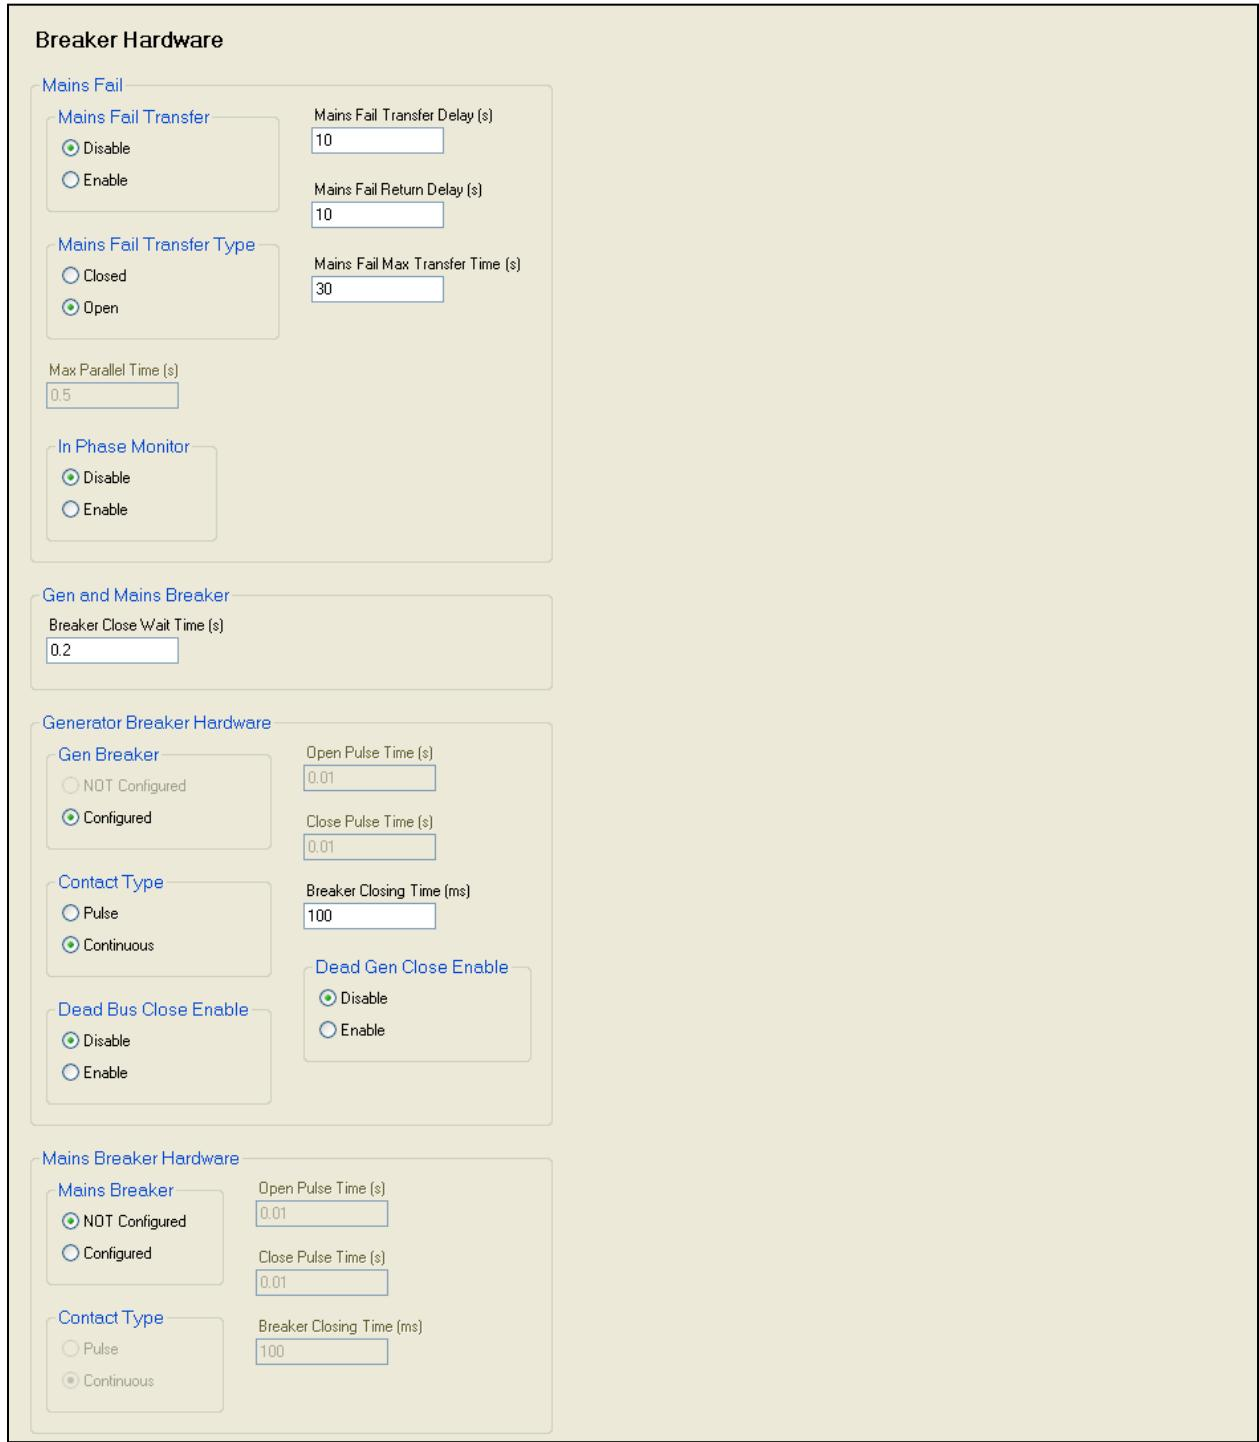

Figure 6-82. Settings Explorer, Breaker Management, Breaker Hardware Screen
3. Configure main and gen breaker parameters in BESTCOMSPlus under SETTINGS EXPLORER→BREAKER MANAGEMENT→BREAKER HARDWARE. See Figure 6-82.
- c. Generator Breaker. See Figure 6-82.
- d. Mains Breaker. See Figure 6-82.